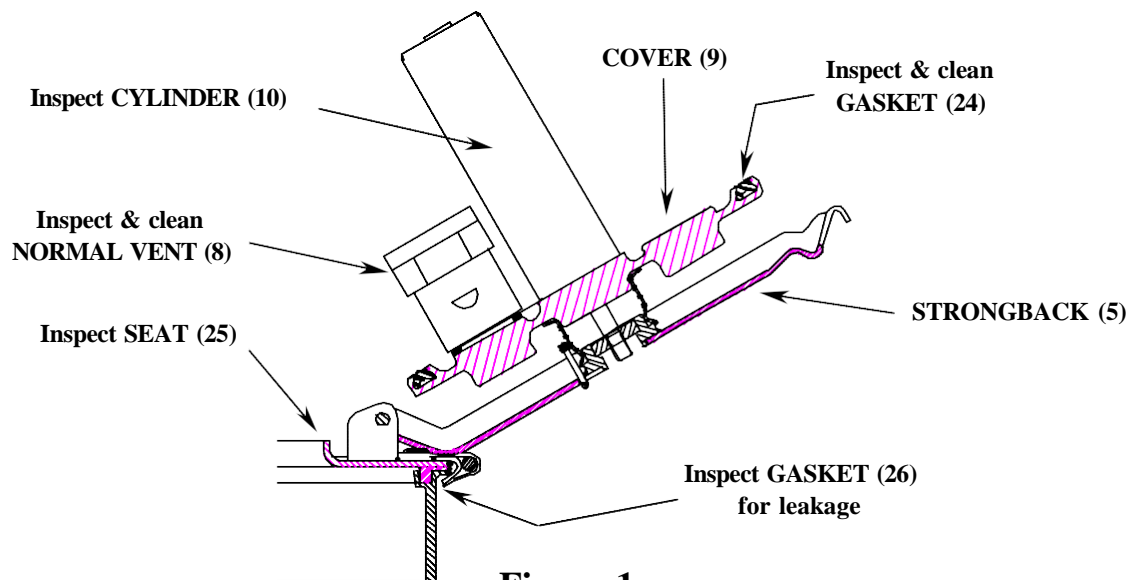

Figure 1
- 1.1.2. Closely inspect the *Cylinder (10)* for any damage or dents. Also, insure *Cylinder (10)* is threaded tightly to the *Cover (9)*. See figure 1.